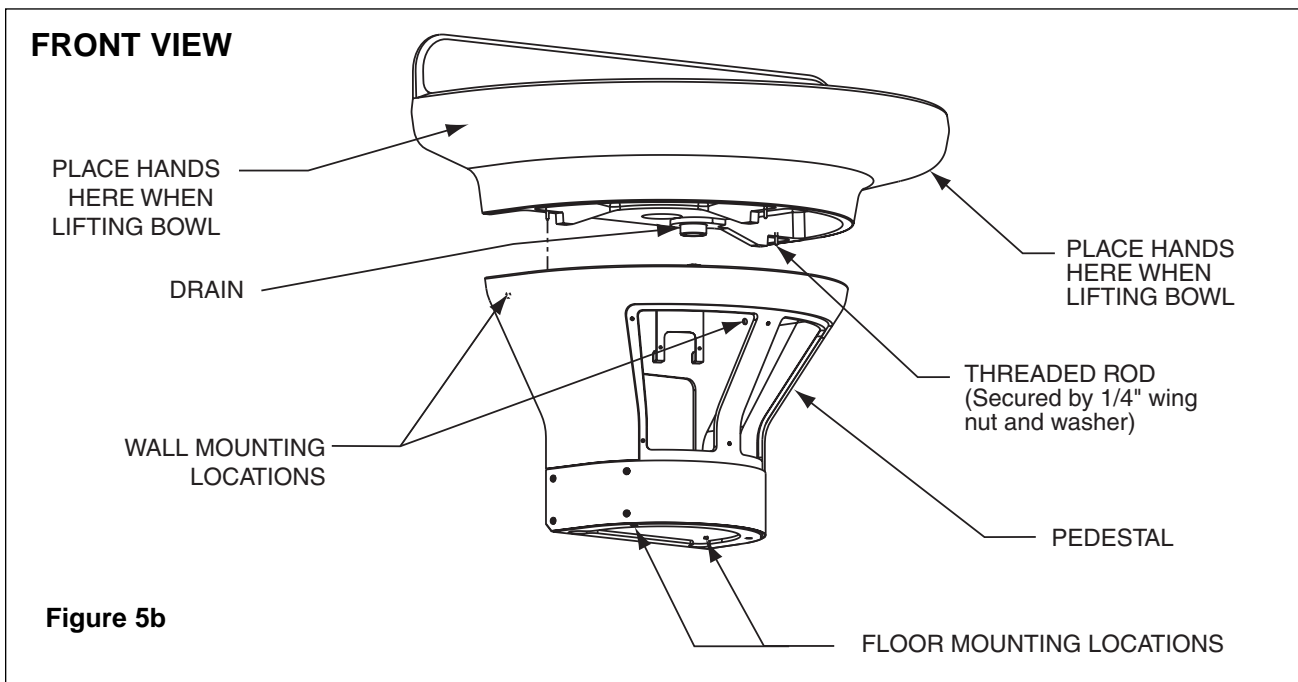

Figure 5b
1. Position pedestal at desired location and mark the position of the (2) pedestal wall mounting locations and (2) pedestal floor mounting locations (see Figure 5b).
2. Secure pedestal to wall and floor with suitable fasteners, 1/2" anchors and 1/2" bolts (supplied by installer) (see Figure 5b for floor and wall mounting locations).
3. Using two to three people, carefully lift bowl onto pedestal (see Figure 5b).
4. Position bowl so that threaded rods in bowl mate with slotted holes in pedestal (see Figure 5b).
5. Using 1/4" wing nuts and washers, secure bowl to pedestal, three places (see Figure 5b).